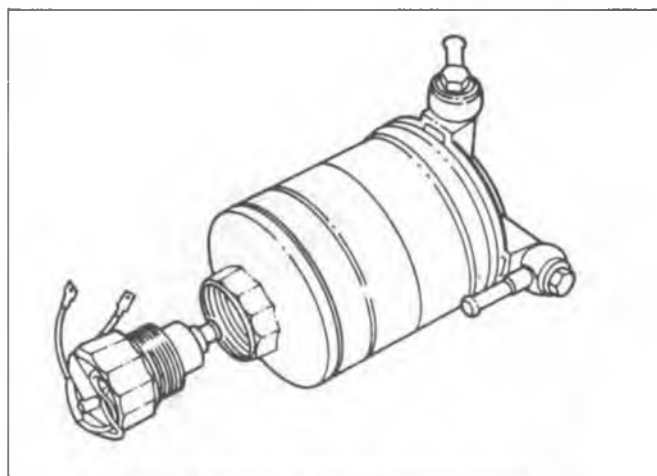

Fig. 1-7 Primary Filter with Water Sensor
3. Push down a number of times on the priming button at the top of the separator unit. (Fig. 1-7)